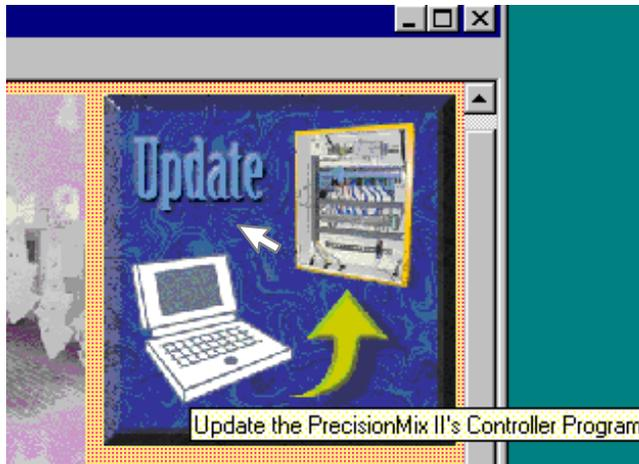

Fig. 13.29
1. Select File ► Update ► PrecisionMix II Program (Fig. 13.28) or press the Update PrecisionMix II Program button (Fig. 13.29).